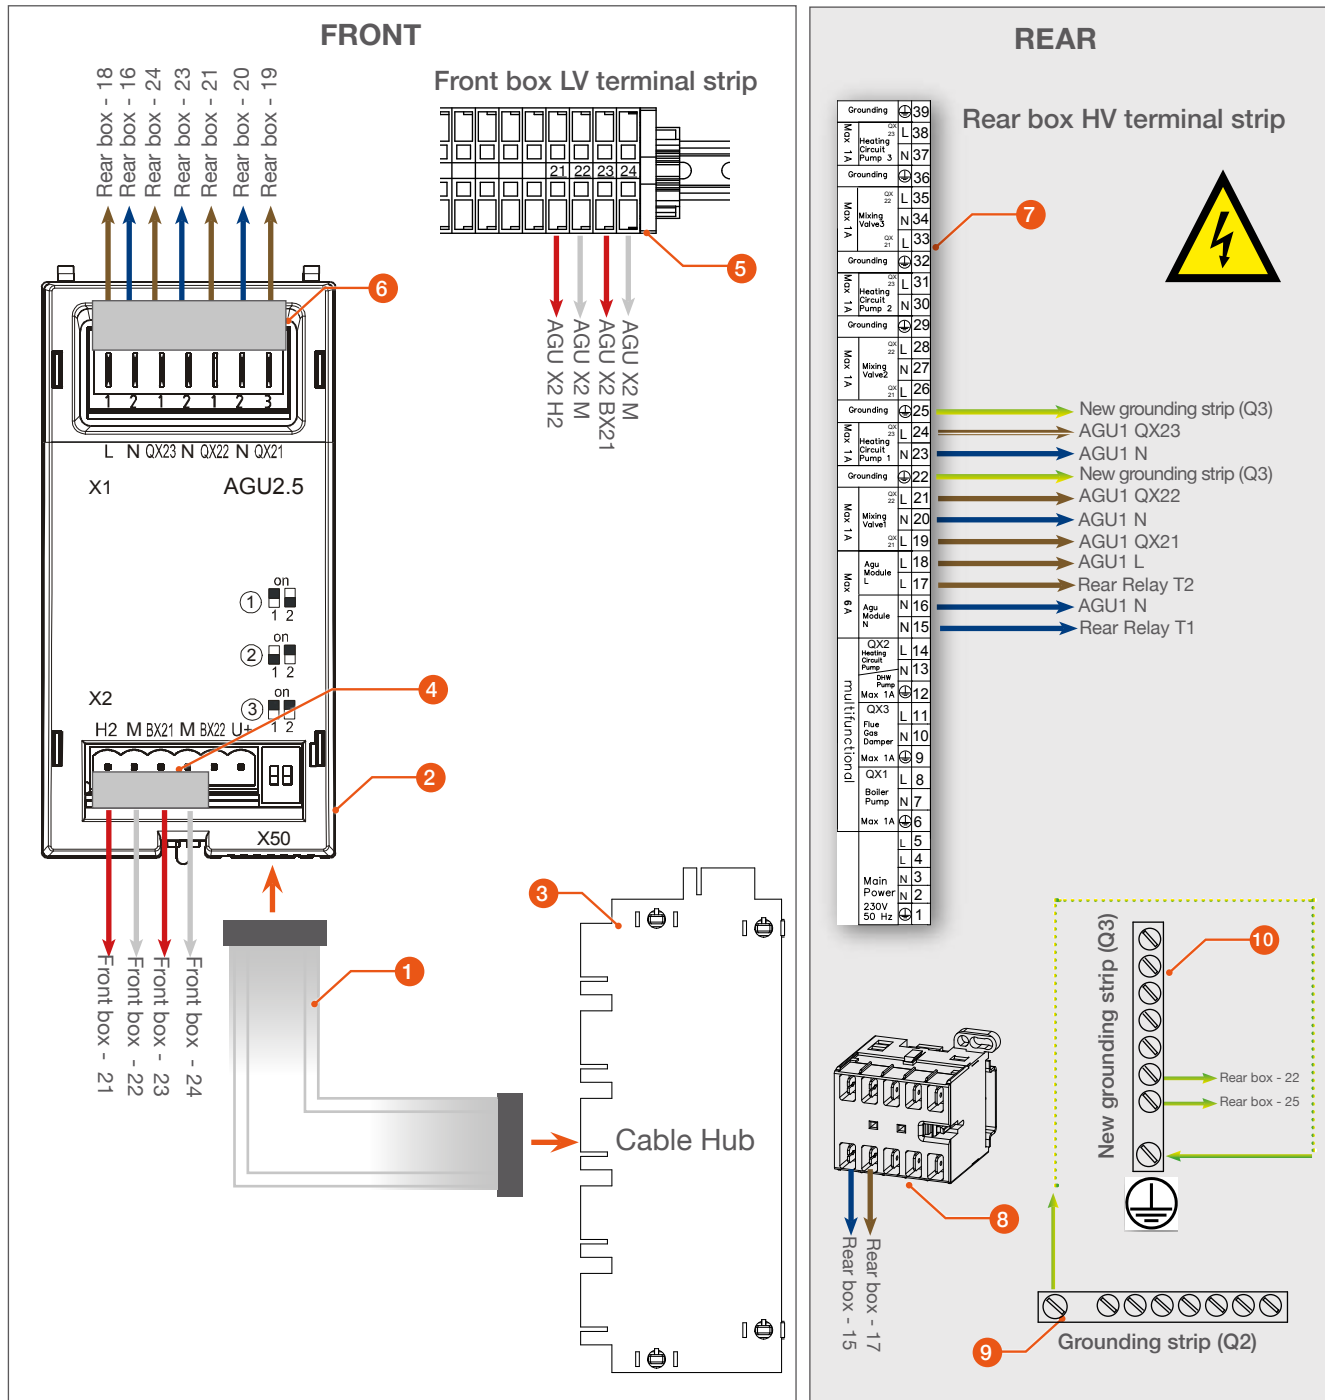

Fig. 10. Nesta - Connecting the cables - AGU 1 (starter)
4. Connect rear relay (8) to rear terminal strip (7), as indicated in the picture below. Route the harness as indicated in **Fig. 10**.
5. Connect lower ground strip (rear box) (9) to the new grounding strip (10) using one 650 mm long ground wire.
6. Connect ground terminals 22 and 25 of rear terminal strip (7) to new grounding strip (10) using two 210 mm long ground wires